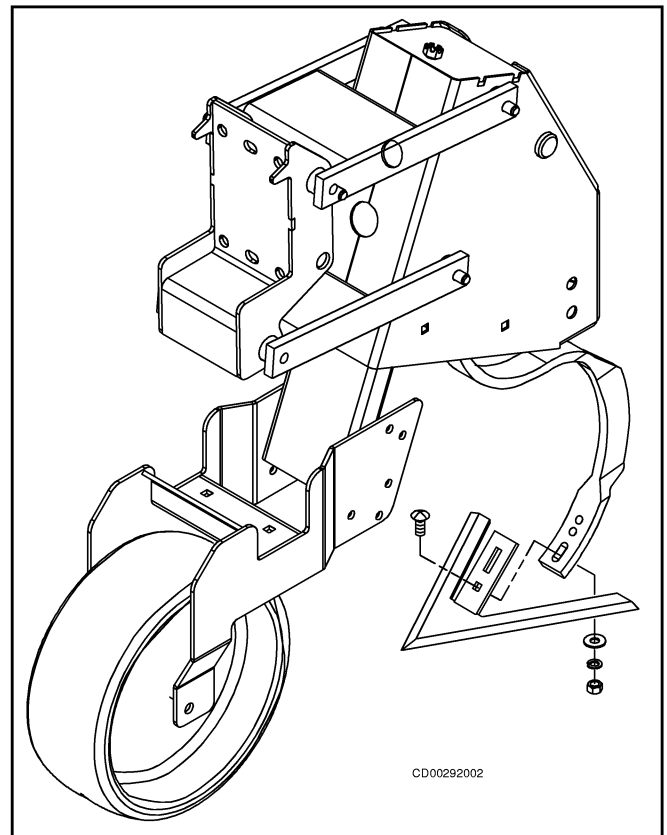

Figure 20 Adjusting Sweep Pitch
1. Adjust pitch by selecting a different hole on the tine (straight edge tine). Use pitch adjusting screw. See Figure 20.